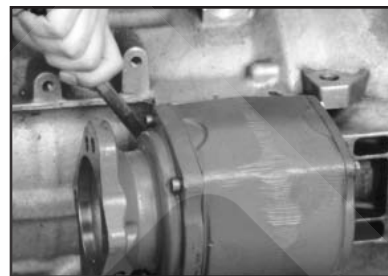

Fig. 6
- Use self locking nuts provided with P.T.O. (**Fig 6**).